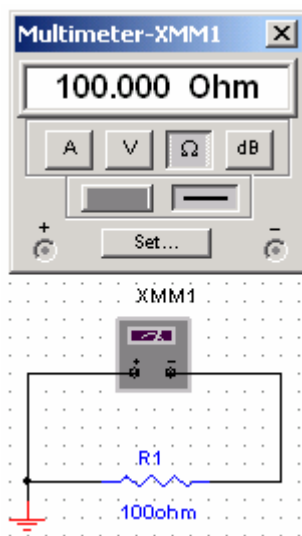

Figure 2: Measuring resistance
1. Build the circuit of Figure 2 using *Multisim Electronics Workbench*. Connect a multimeter between the terminals of resistor and set it to read resistance. Select  $R_1=100\Omega$ . Click the **Simulation Switch** to run analysis. Record the value of resistance  $R_1$  in Table 3.